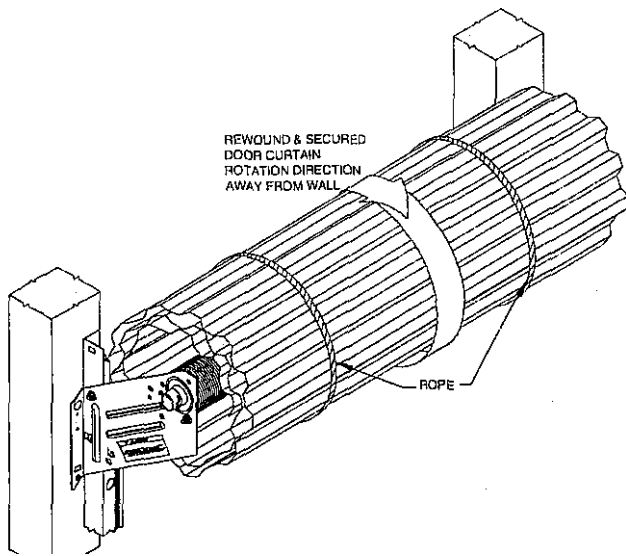

Figure 17.
9.1 Pull Rope Handle: Tie a knot in one end of the rope. Slide the plastic handle onto the rope and pull the knot up into the handle. Pass the other end of the rope through the hole in the center of the bottom edge of the door and tie another knot in the end to keep the rope from pulling through. See Figure 17
15.3 Open the door but DO-NOT allow it to come out of the guides. Strap two ropes TIGHTLY around the door curtain and tie the curtain SECURELY as it comes out of the guides. See Figure 17.